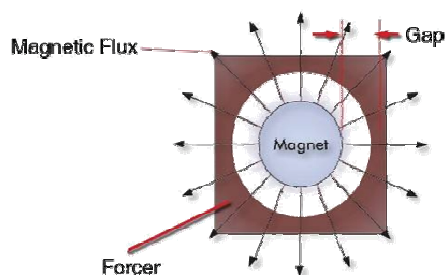

Figure 3
- The coils surround the magnets allowing for the optimal use of all the magnetic flux. (**Figure 3**) This makes the air gap non-critical. As long as the forcer does not com in contact with the shaft there is no variation in the linear force.